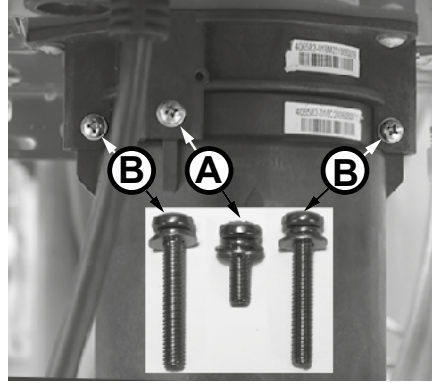

Figure 1 - Identify cartridge screws
5 Locate the three (3) screws securing the X3®/Bypass cartridge as shown in Figure 1. Remove the **(A)** M4-12mm screw and the two **(B)** M4-25mm screws from cartridge. Place screws aside in a safe place for reinstallation.